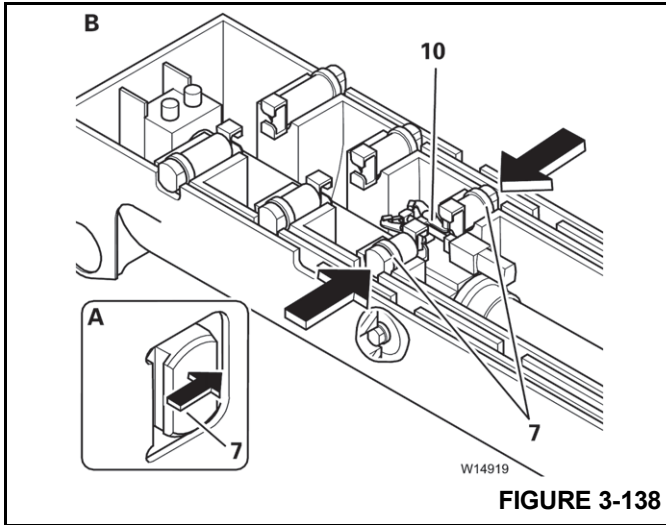

FIGURE 3-138
3. Unlocking the telescopic section (Figure 3-138);
- a. The telescope cylinder extends until the notch in the section locking pins (7) are no longer engaged with the section (A).
- b. The butterfly mechanism (10) retracts the section locking pins (7) unlocking the telescopic section.